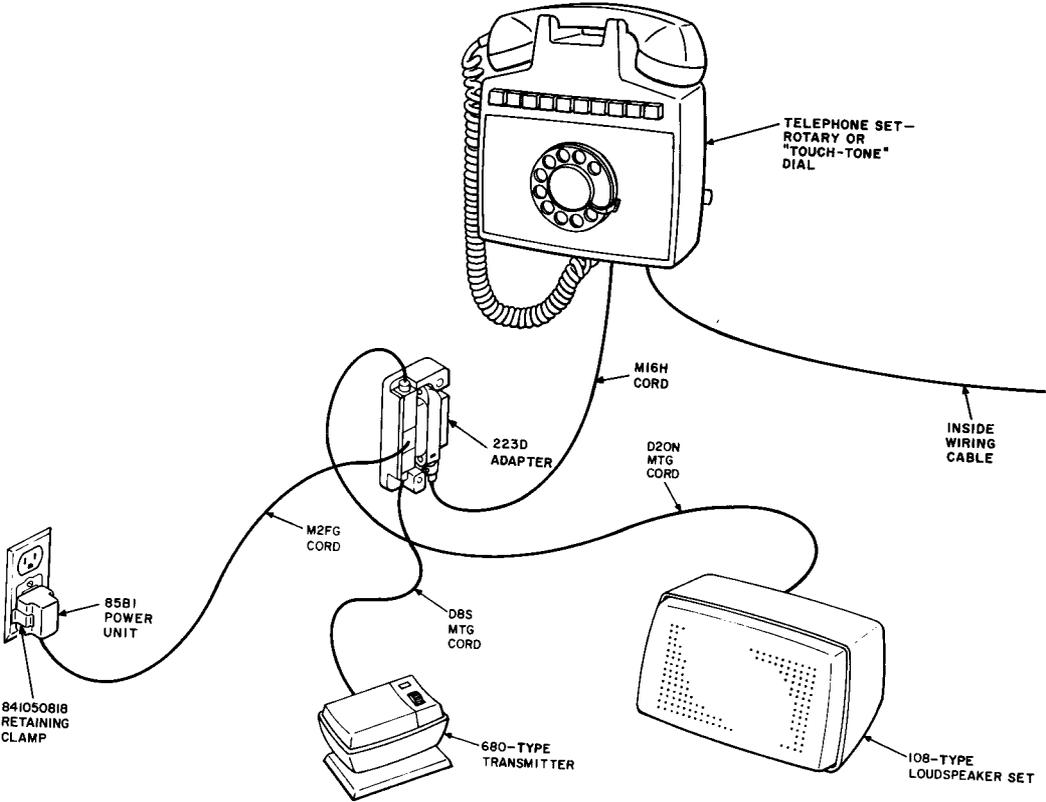

Fig. 1—4A Speakerphone System Arrangement, 10-Button Wall Telephone Sets
2.09 Power can be provided by making connections as shown in Fig. 1 and 2.